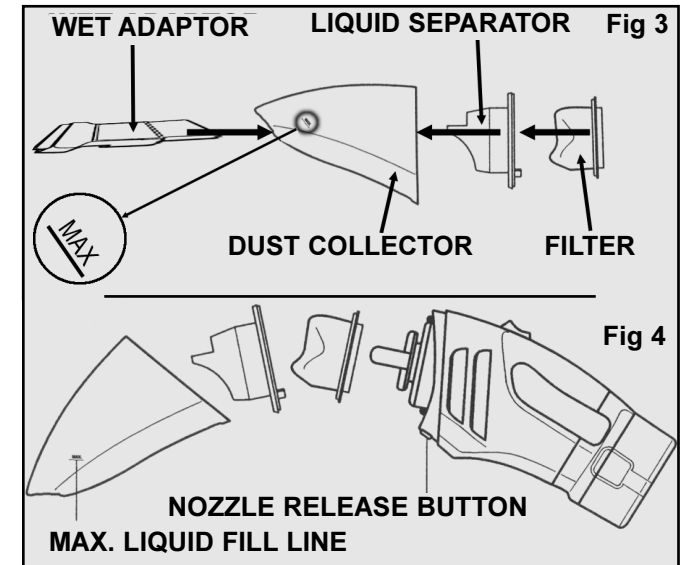

Fig 4
- 3.3.5 Press down on the release button (fig 4) and separate the motor from the from the dust collector carefully to avoid spilling the contents.
- 3.4.7 Press down on the release button (fig 4) and separate the motor from the from the dust collector carefully to avoid spilling the contents.